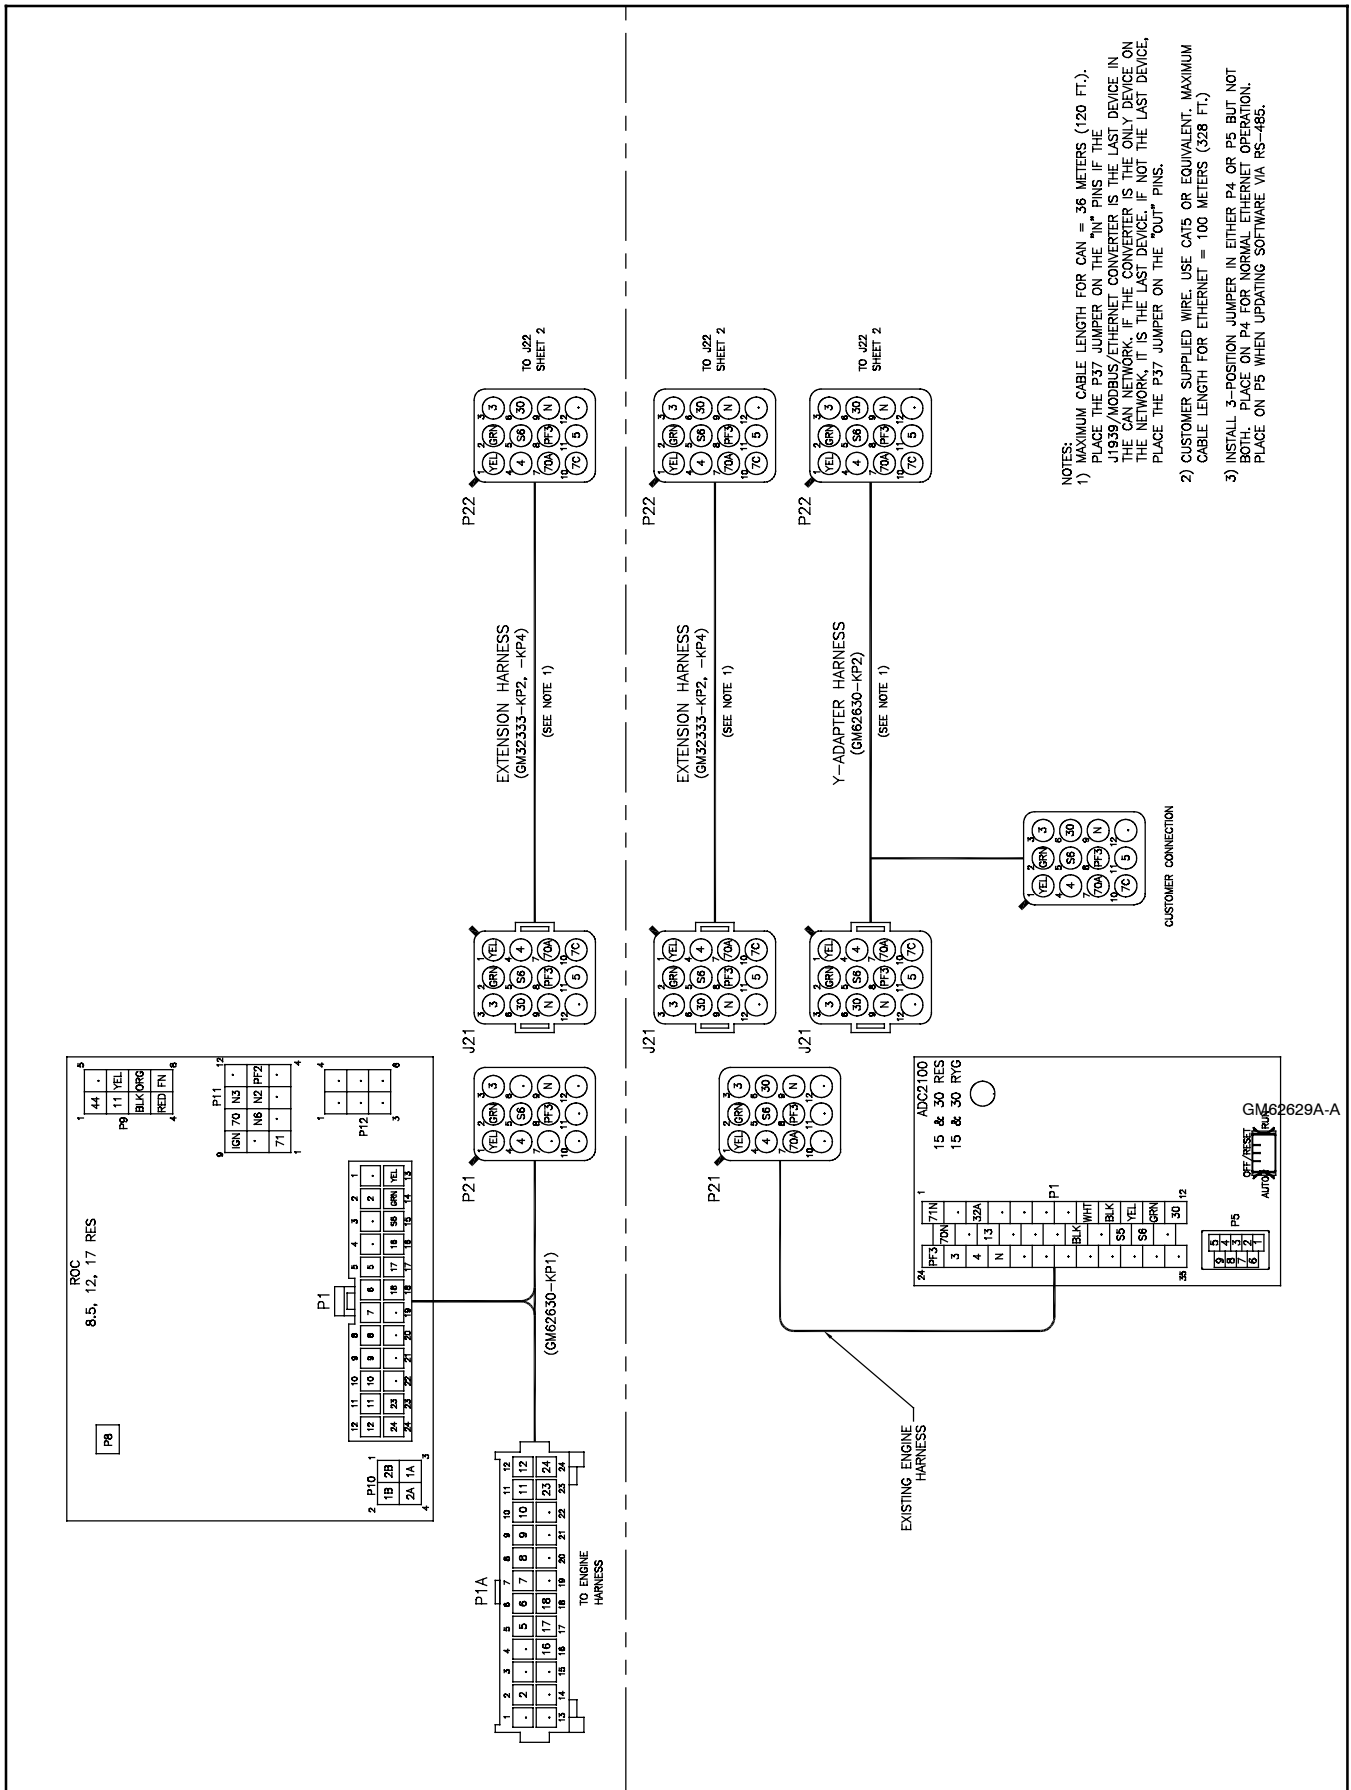

Figure 18 Network Connection Diagram, Sheet 1
1. For model 8.5RES, 12RES, or 17/18RES generator sets with the ADC-RES controller, disconnect the engine harness from the controller at the large P1 connector. See Figure 18.
2. Connect the mating connectors of Y-harness GM62626 to the controller and the engine harness. See Figure 18. For the 17/18RES, thread the smaller P21 connector of the Y-harness through the opening made in the junction box in step 7c.
2. Connect Y-harness GM65797 to the disconnected plug and to the customer interface connector. See Figure 18.